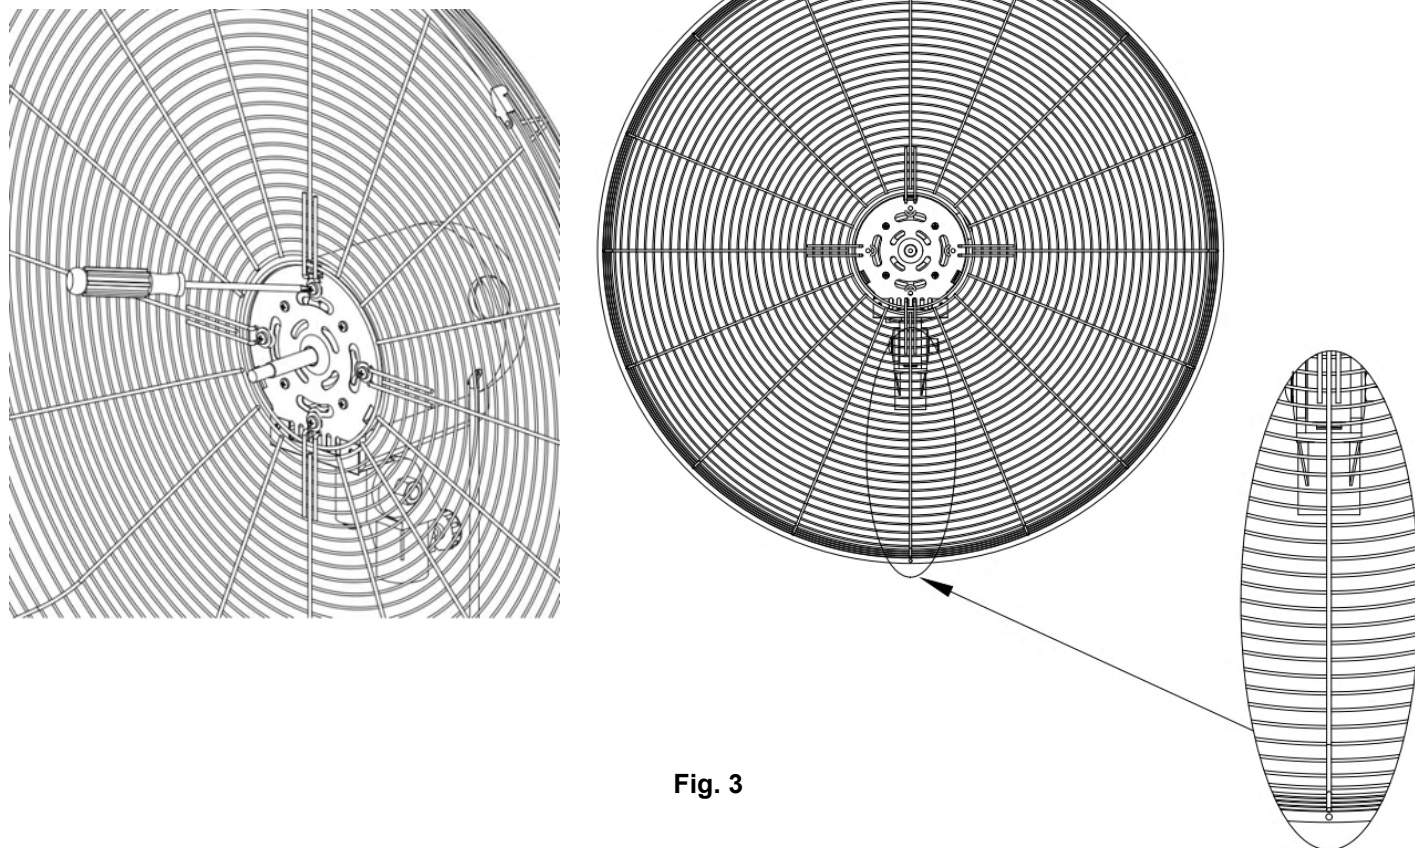

Fig. 3
3. Align the 4 mounting holes on the rear safety grill to the 4 mounting screw holes on the motor of fan assembly, and using the 4 screws in step 2, to secure the rear safety grill to the fan motor assembly. (Fig.3)
NOTE: Please ensure that the correct installation position of the small screw hole on the edge surface of the rear safety grille is facing the ground. (Fig.3)